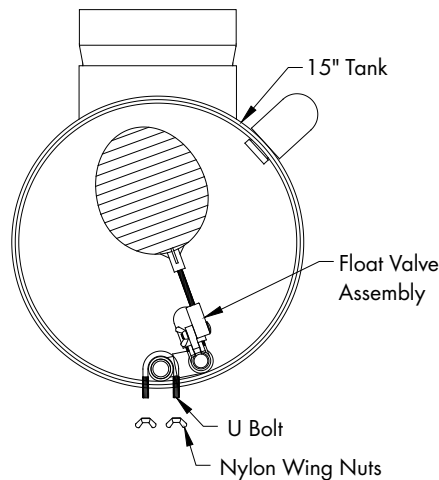

*Figure 22C*
On the cooling system Tank Kit drill (4) 1 1/32" dia. holes as shown in Figure 22C. The holes should be located on the side of the Tank Kit that is opposite the 8" Pipe, and so that the float assembly can swing freely and is not obstructed by anything.